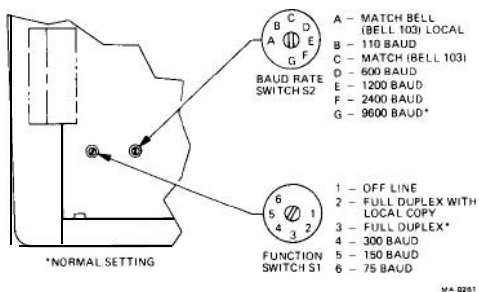

Figure 6-1 Function and Baud Rate Switch Settings
6. Use a screwdriver or small coin to set S1 to position 1 and S2 to position G. Figure 6-1 shows the functions and baud rates which can be selected with S1 and S2.
4. Set the PMK04 TRANSMIT/RECEIVE baud rate switches (Table 7-1) to match the setting of the terminal baud rate switches. Figure 6-1 shows the baud rate switch settings. Table 7-1 shows the RECEIVE/TRANSMIT switch settings for the PMK04.